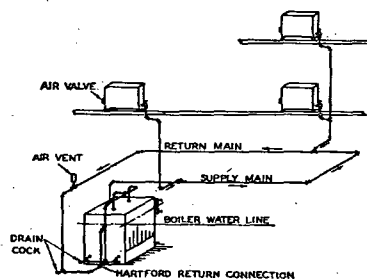
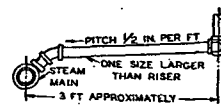

Fig. 3....Typical Up-Feed Gravity One-Pipe Air-Vent System
Fig. 4....Typical Steam Runout where Risers Are Not Dripped
1. *Up-feed one-pipe systems where the radiators and other heating units are located above the supply mains.* The mains in this instance convey both steam and condensate. Therefore, it is preferable to limit the design to systems with a connected load under 2500 sq ft EDR. Such a system is illustrated in Fig. 3. Typical connections to radiator or risers are illustrated in Figs. 4 and 5 and method of changing sizes of mains in Fig. 6.
2. *Up-feed one-pipe system with a connected load in excess of 2500 sq ft EDR, where radiators and other heating units are located above the mains, as illustrated in Fig. 8.* It will be noted that the mains are dripped at each riser connection to a wet-return, as indicated in Fig. 5, so that the mains carry a minimum of the condensation. This feature is always desirable in the design of any one-pipe steam system. Radiators immediately above the mains may be connected as shown in Fig. 4. Up-feed systems are not recommended for systems higher than four or five stories.